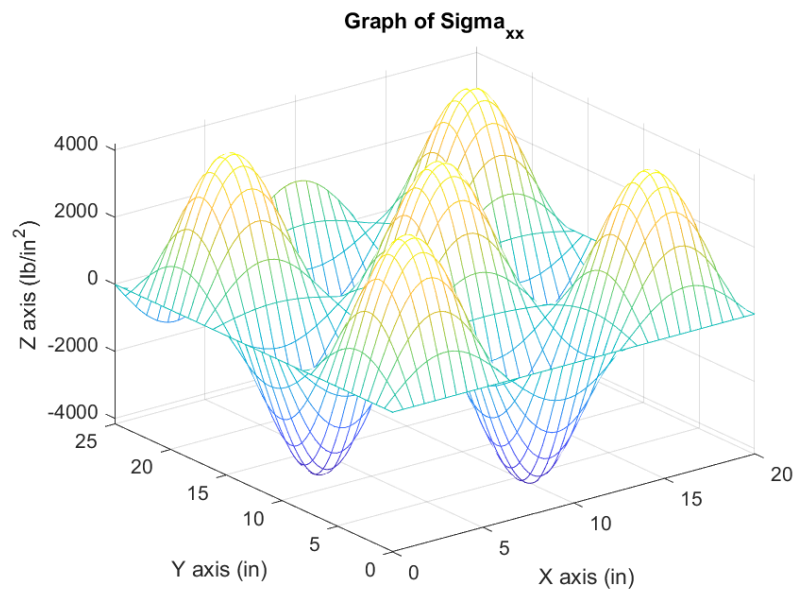

Figure 5:
Equations (4), (5), (6) and (7) were used to get the stresses and they are graphed below in figure 5 and 6 :